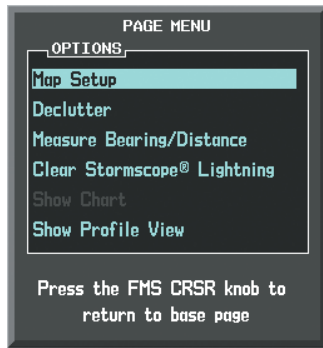

Figure 6-69 Navigation Map Page Menu
- 3) With 'Map Setup' highlighted, press the **ENT** Key (Figure 6-69).